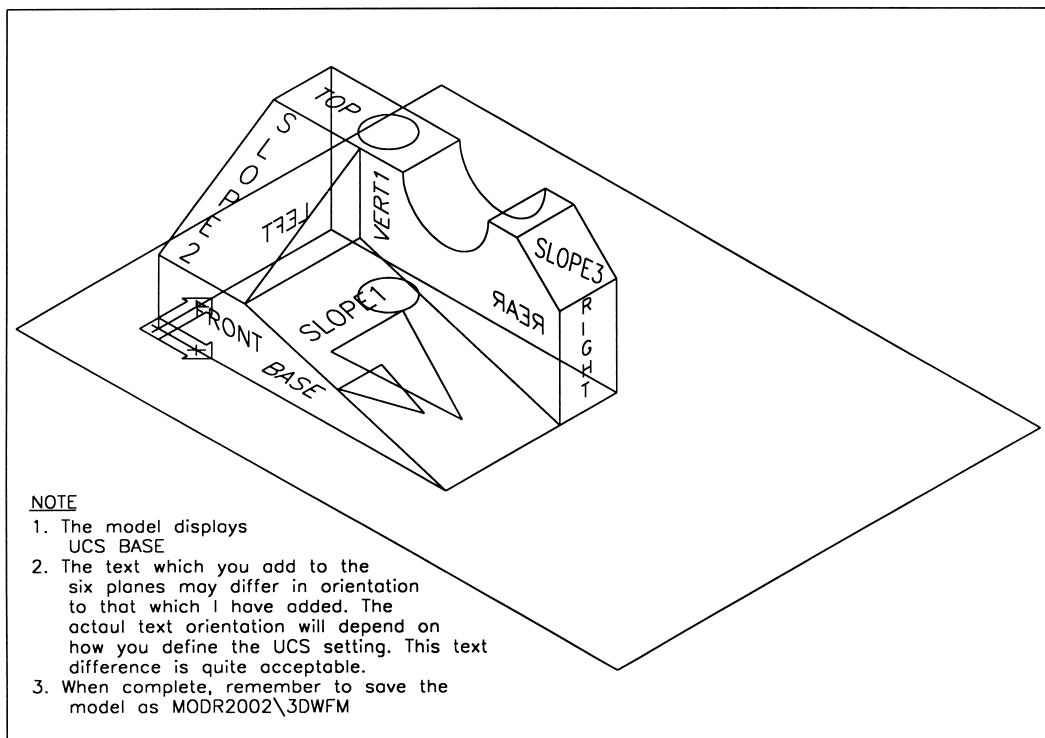

Figure 4.4 The complete 3D wire-frame model (3DWFM) with text added to every plane.
- 4 Figure 4.4 displays the complete wire-frame model with text added to every plane (with the exception of the curved surface) using the UCS positions I 'set'. Realise that your additional text may differ in appearance from mine. This is acceptable as your UCS positions may be 'set' different from mine